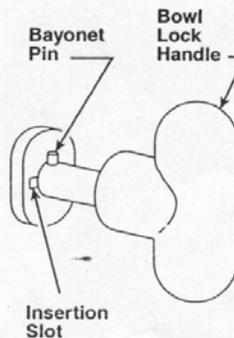

Figure 3
- 5.1.7 Check that the two bowl lock handles are disengaged from the bowl hub. Rotate bayonet pins  $90^\circ$  away from the insertion slots to prevent accidental pushing in of the bowl locks during the run (See Attachment I, Figure 3).
- 10.1.3 Figure 3 – Bowl Lock Handle